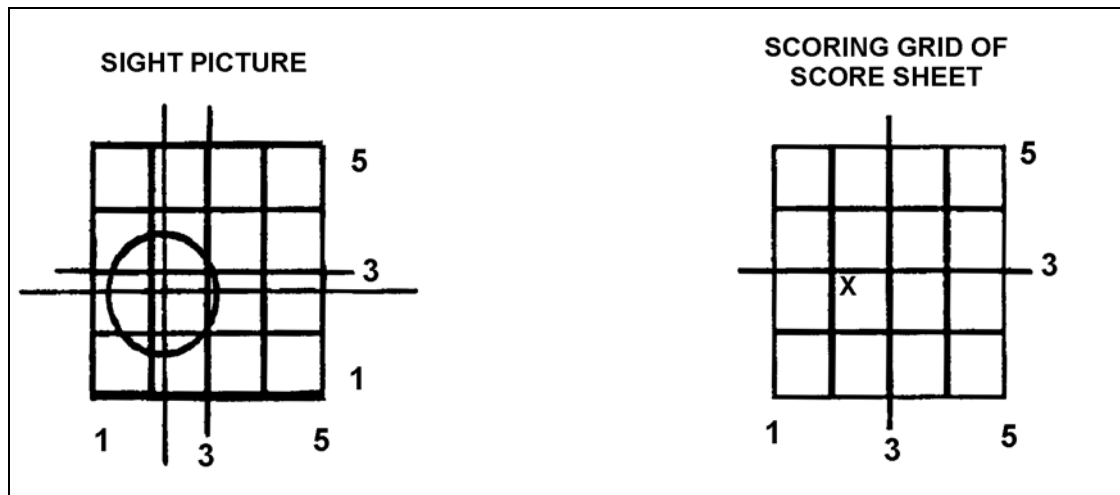

Figure B-15. Sight picture and scoring grid.
(1) **Marking the Aiming Point on the Scoring Grid.** One technique for observing and plotting the telescope's aiming point is to draw an "X" on the scoring grid where the telescope reticle aims at the panel (Figure B-15). However, the clutter between the reticle and grid lines can make using this technique difficult.
(2) **Determining Grid Coordinates for Each Aiming Point.** The second technique resembles that of using grid coordinates on a map. Determine grid coordinates for each aiming point using the numbers along the bottom and right sides of the test panel. Read the coordinates to the right and up, starting from the lower left-hand corner of the grid. Take two readings for each aiming point of the telescope: an azimuth (AZ) coordinate and an elevation (EL) coordinate.